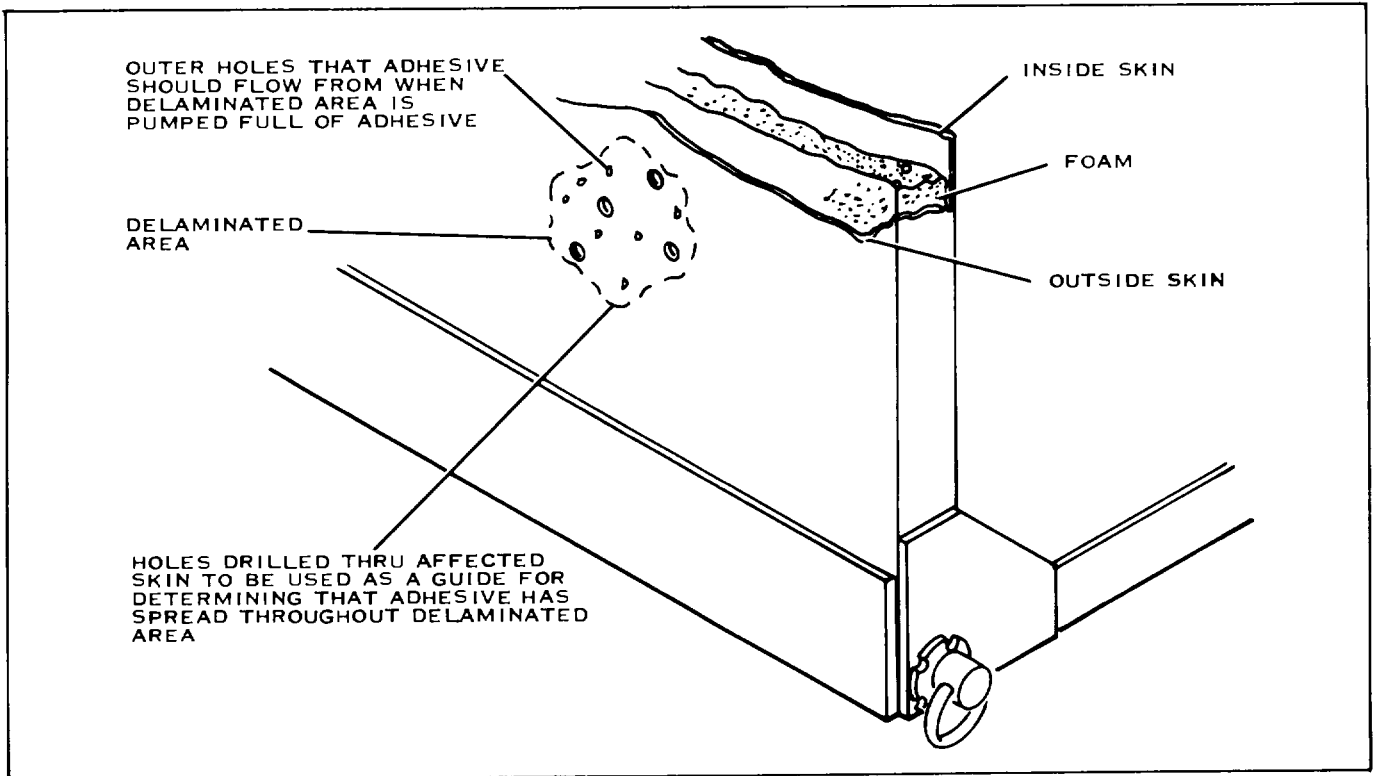

Figure 3-1. Delamination Repair
a. On completion of sounding, check the approximate center of the delaminated area and drill a 3/16-inch diameter hole through affected skin only. Refer to figure 3-1 as a visual guide. This hole will be used to pump epoxy into delaminated area.